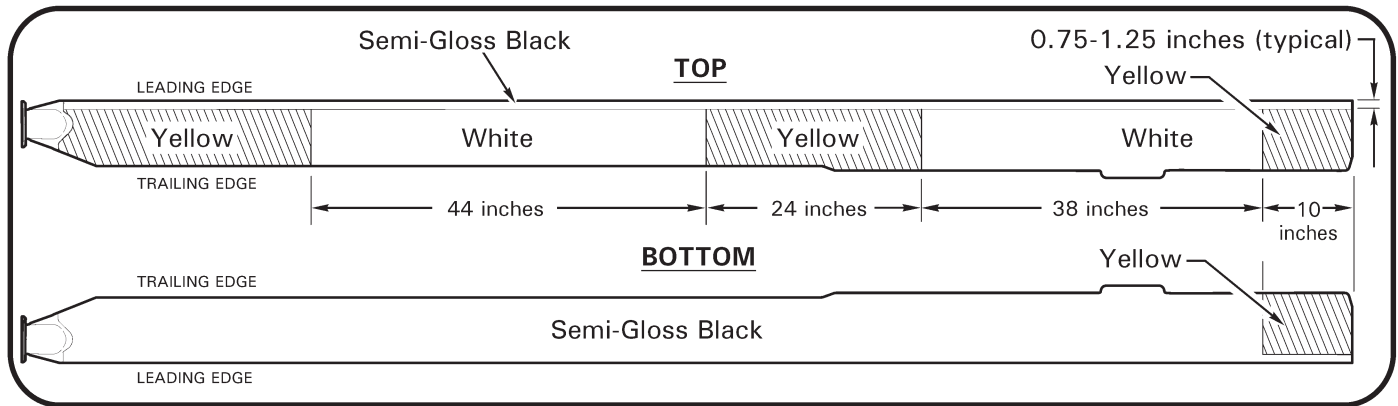

FIGURE 26-17 MAIN ROTOR BLADE PAINT SCHEME (A016-6 BLADE SHOWN)
6. Refer to Figures 26-17. Apply dark gray (root), flat black, white, and/or yellow polyurethane enamel, as required, to primed area in accordance with paint manufacturer’s recommendations.